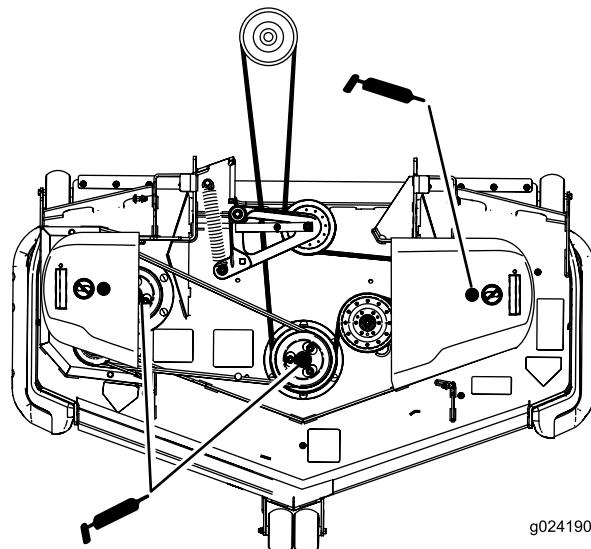

Figure 37
3. Grease the three spindle bearings until grease comes out the lower seals (Figure 37).
- Grease the drive-belt idler arm (Figure 37).